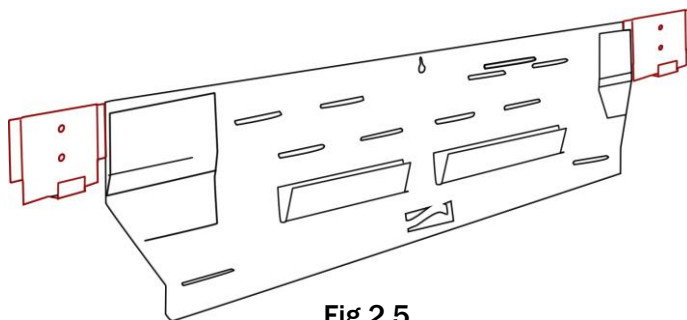

Fig 2.5
10. Next locate the 2 Bracket Spacer/Trim Strip Hangers (O). Secure each to the wall using the smallest screws from your hardware bags (J). Place each spacer so it is horizontally level with the center wall bracket and butted up as close to the wall bracket as possible on either side (Fig 2.5).